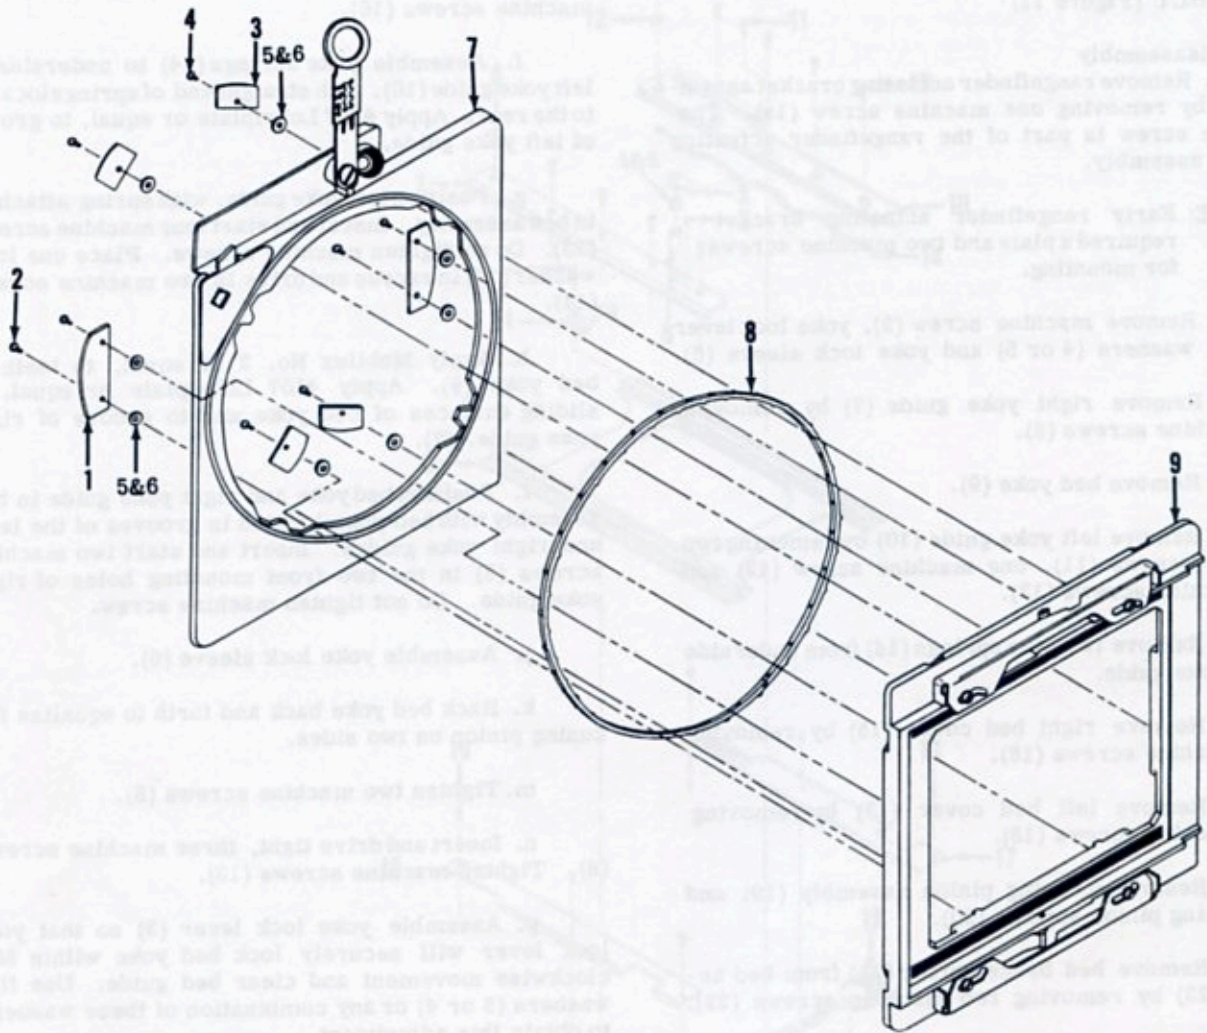
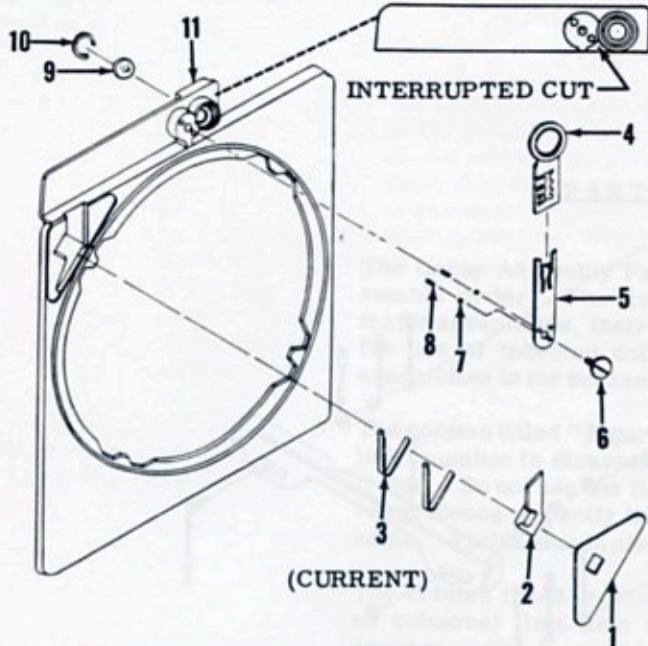
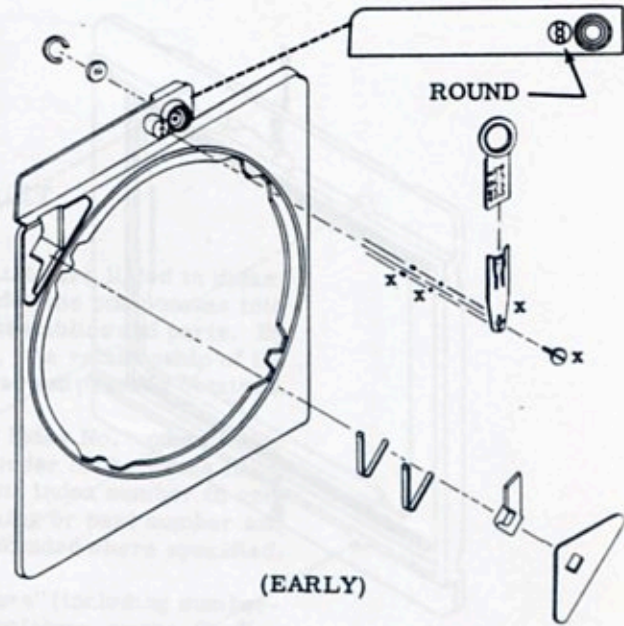

Figure 12. BACK ASSEMBLY
Figure 12A. STATIONARY FRAME COMPLETE
Figure 12B. STATIONARY FRAME COMPLETE
X. BACK ASSEMBLY - DISASSEMBLY AND REASSEMBLY (Figure 12)
a. Remove four machine screws (2), four machine screws (4), two retainers (1), four retainers (3), washers (5 & 6, used as required), and stationary frame complete (7). If disassembly of the stationary frame complete is necessary, see Par. X. 1.
b. Remove revolving ring (8) from grooved track of the revolving frame complete (9). If disassembly of the revolving frame complete is necessary, see Par. X. 2.
NOTE: A change has been made on the stationary frame as illustrated in figures 12, 12A & 12B. Disassembly and reassembly procedures remain the same. Items marked x in figure 12B are not interchangeable with corresponding items in figure 12A. When ordering replacement parts, refer to the correct parts list.
X. 1. STATIONARY FRAME COMPLETE - DISASSEMBLY AND REASSEMBLY (Figure 12A)
a. Remove cemented release button cover (1). Remove release button (2) and two button springs (3) from cavity in stationary frame.
b. Remove peepsight assembly (4).
c. Remove peepsight carrier (5) by removing machine screw (6), two steel balls (7) and two carrier springs (8).
d. Remove rear window (9) from stationary frame assembly (11) by removing retaining ring (10).
a. Assemble rear window (9) and retaining ring (10) in stationary frame assembly (11).
b. Insert two carrier springs (8) into two small holes in boss of stationary frame for carrier peepsight mounting. Apply a light coat of Dow-Corning #44 Silicone grease to two steel balls (7) and place a ball over each carrier spring. Apply paraffin to two sides of peepsight carrier (5) and apply Neolube to underside of head of machine screw (6). Position peepsight carrier in place and secure with machine screw.
c. Assemble peepsight assembly (4) to peepsight carrier.
d. Assemble two button springs (3) in cavity of stationary frame. Apply a light coat of Dow-Corning #44 Silicone grease to release button (2) and position in place. Apply 3M 776 adhesive to area around cavity opening in stationary frame, keeping within .050 in. from edges of cavity. Assemble release button cover (1) and remove excess adhesive.